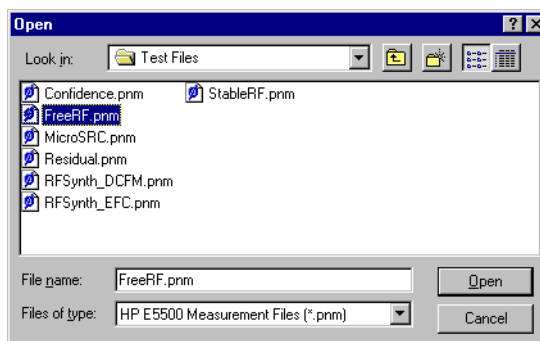

Figure 7-12 Select the Parameters Definition File
- 3 In the **File Name** box, choose "**FreeRF.pnm**". See Figure 7-12